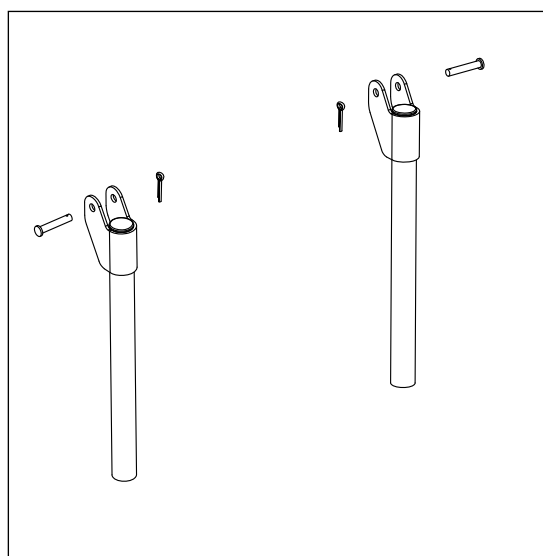

Fig 1
- 1) Two Handles with bolts, pin. Fig 1